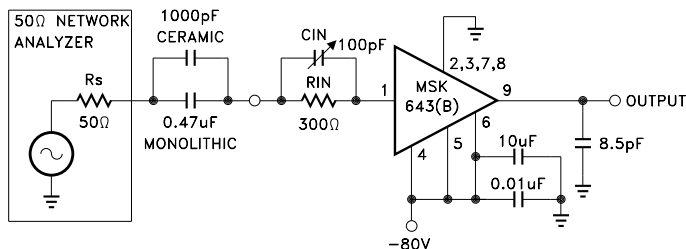

FIGURE 1
- ① $R_{IN} = 300\Omega$, $C_{IN} = 100pF$, $C_{LOAD} = 8.5pF$, $R_L = \infty$, unless otherwise specified (See Figure 1).
- ② Guaranteed by design but not tested. Typical parameters are representative of actual device performance but are for reference only.
- ③ Industrial grade devices shall be tested to subgroups 1 and 4 unless otherwise specified.
- ④ Military grade devices ('B' suffix) shall be 100% tested to subgroups 1,2,3 and 4.
- ⑤ Subgroup 5 and 6 testing available upon request.
- ⑥ Subgroup 1,4 $T_A = T_C = +25^\circ C$
The signal source in Figure 1 can be either a fast pulse generator or a network analyzer as long as the output impedance is 50 ohms. The DC level of the input should be -1.55V and all cables should be kept as short as possible. Since total load capacitance should be kept below 8.5pF, a FET probe should be used on the output.
Transimpedance amplifiers relate input current to output voltage. The MSK 643 contains an internal 4K Ω feedback resistor. This resistor converts input current to output voltage in the following manner (See Figure 1):